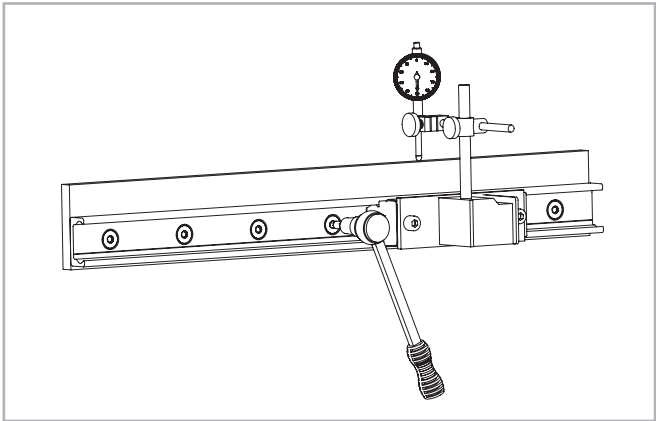

Fig. 105
(2) Install a dial indicator so that the offset of the rail to a reference line can be measured. Now position the slider in the center of the rail and set the dial indicator to zero. Move the slider back and forth between each two hole spacings and carefully align the rail. Fasten the three center screws of this area now with the the specified tightening torque, see pg. fig. 105.
(3) Now position the slider on one end of the rail and carefully align the rail to zero on the dial indicator.